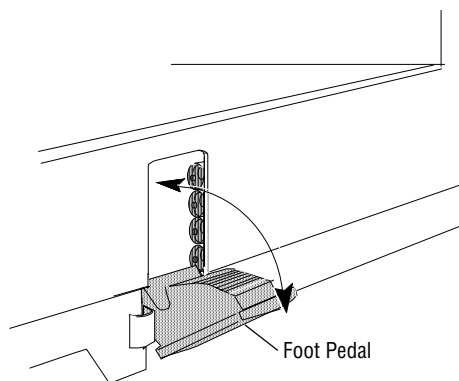

Figure 3-16. Foot Pedal
1. Flip foot pedal down (Figure 3-16).